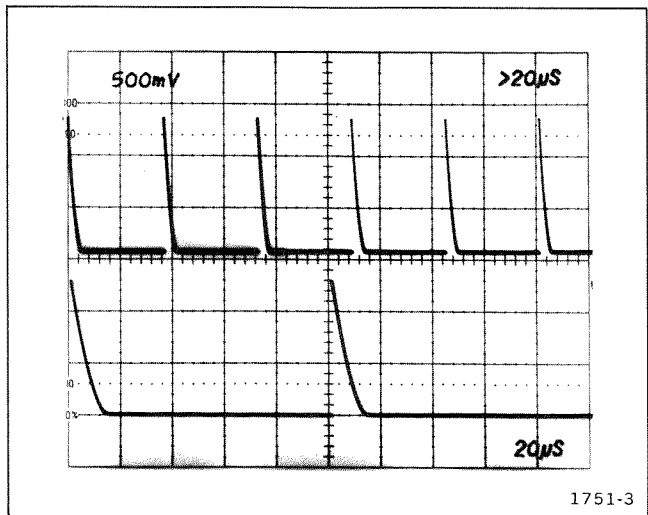

Figure 4-10. VARIABLE Time/Division range.
- h. CHECK—Distance between Delaying sweep markers must not exceed 2 major divisions. (See Figure 4-10.)